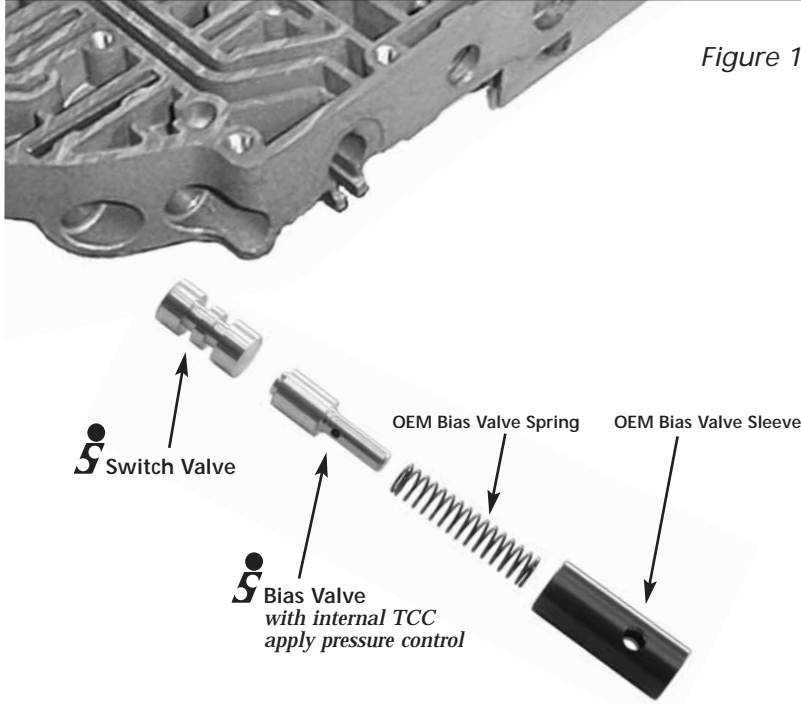

Figure 1
2. Install the Sonnax switch valve and bias valve, reusing the OEM bias valve spring, sleeve and retainer (see Figure 1). Install the rounded spool inboard toward the inner clip and the flat spool facing outboard toward the bias valve. See illustration below.